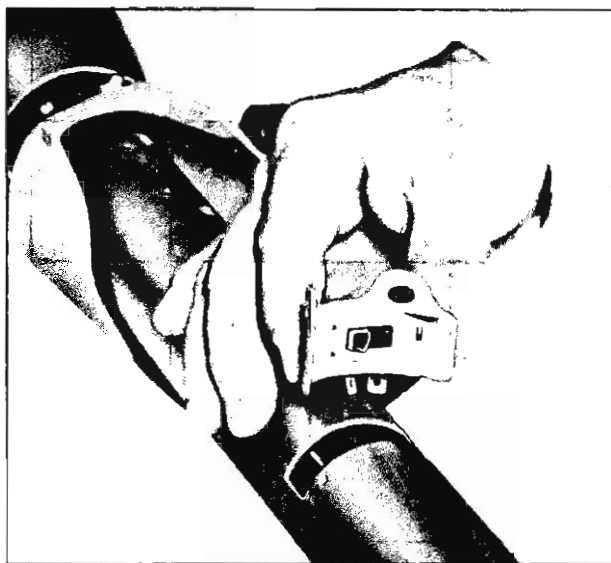

Fig. 35—Back Up Light Switch
**NOTE:** When installing back up light switch, selector lever must be in low gear position tang on shifter tube as shown in Figure 35.